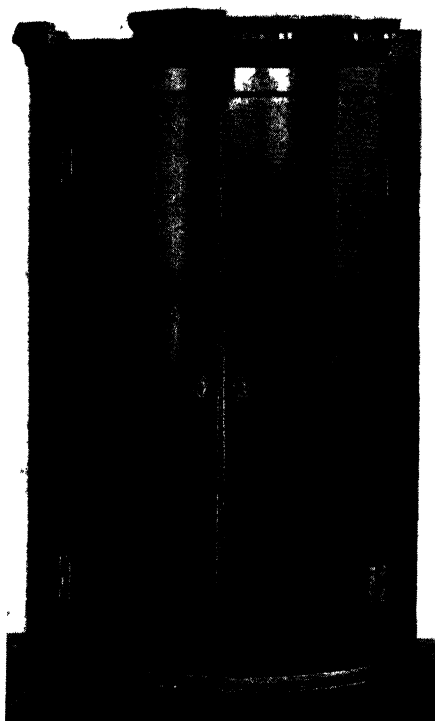

Fig. 112.—Corner Cupboard to be Repaired
**Repairing a Corner Cupboard.**—The photograph reproduced by Fig. 112 shows a corner cupboard in the condition in which it came to hand to be repaired and polished. It is an article which would be classed as "antique," and the object is to "restore" it to its original condition.